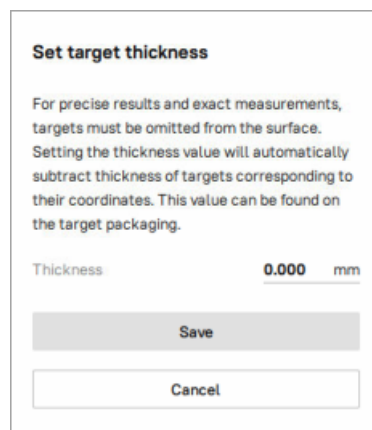

Figure 64: Target thickness compensation dialog.
5. Set a target thickness value in open dialog. This value will be automatically subtracted from the surface for precise result. You can find the set value in the *Properties* panel of the *Workspace* (See Figure 64).